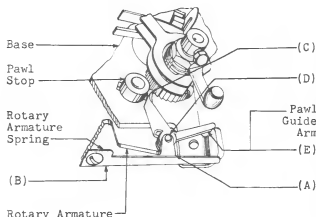

Fig. 11—Rotary Armature Spring Position
- (a) **Fig. 11(A):** The rotary armature spring shall clear the end of the armature with the armature in every position.
- (b) **Fig. 11(B):** The lower edge of the spring shall be approximately parallel to the main surface of the base.
- (c) **Fig. 11(C) and 12(A):** The rotary armature spring shall be tensioned to hold the armature backstop against the nonmagnetic stud.
- (a) **Fig. 11(C):** The edge of the pawl shall engage the radial surfaces of the ratchet teeth approximately flat.
- (b) **Fig. 11(D):** The pawl shall not bind on its bearing or on the base.
- 2.22 Pawl Spring Tension:** Fig. 11(E)—The pawl spring shall hold the pawl guide arm against the base with a pressure of
- 2.23 Pawl Guide Arm Position:** Fig. 11(E)—With the wiper springs on the first bank contact and as the rotary armature is operated manually, there shall be a clearance of